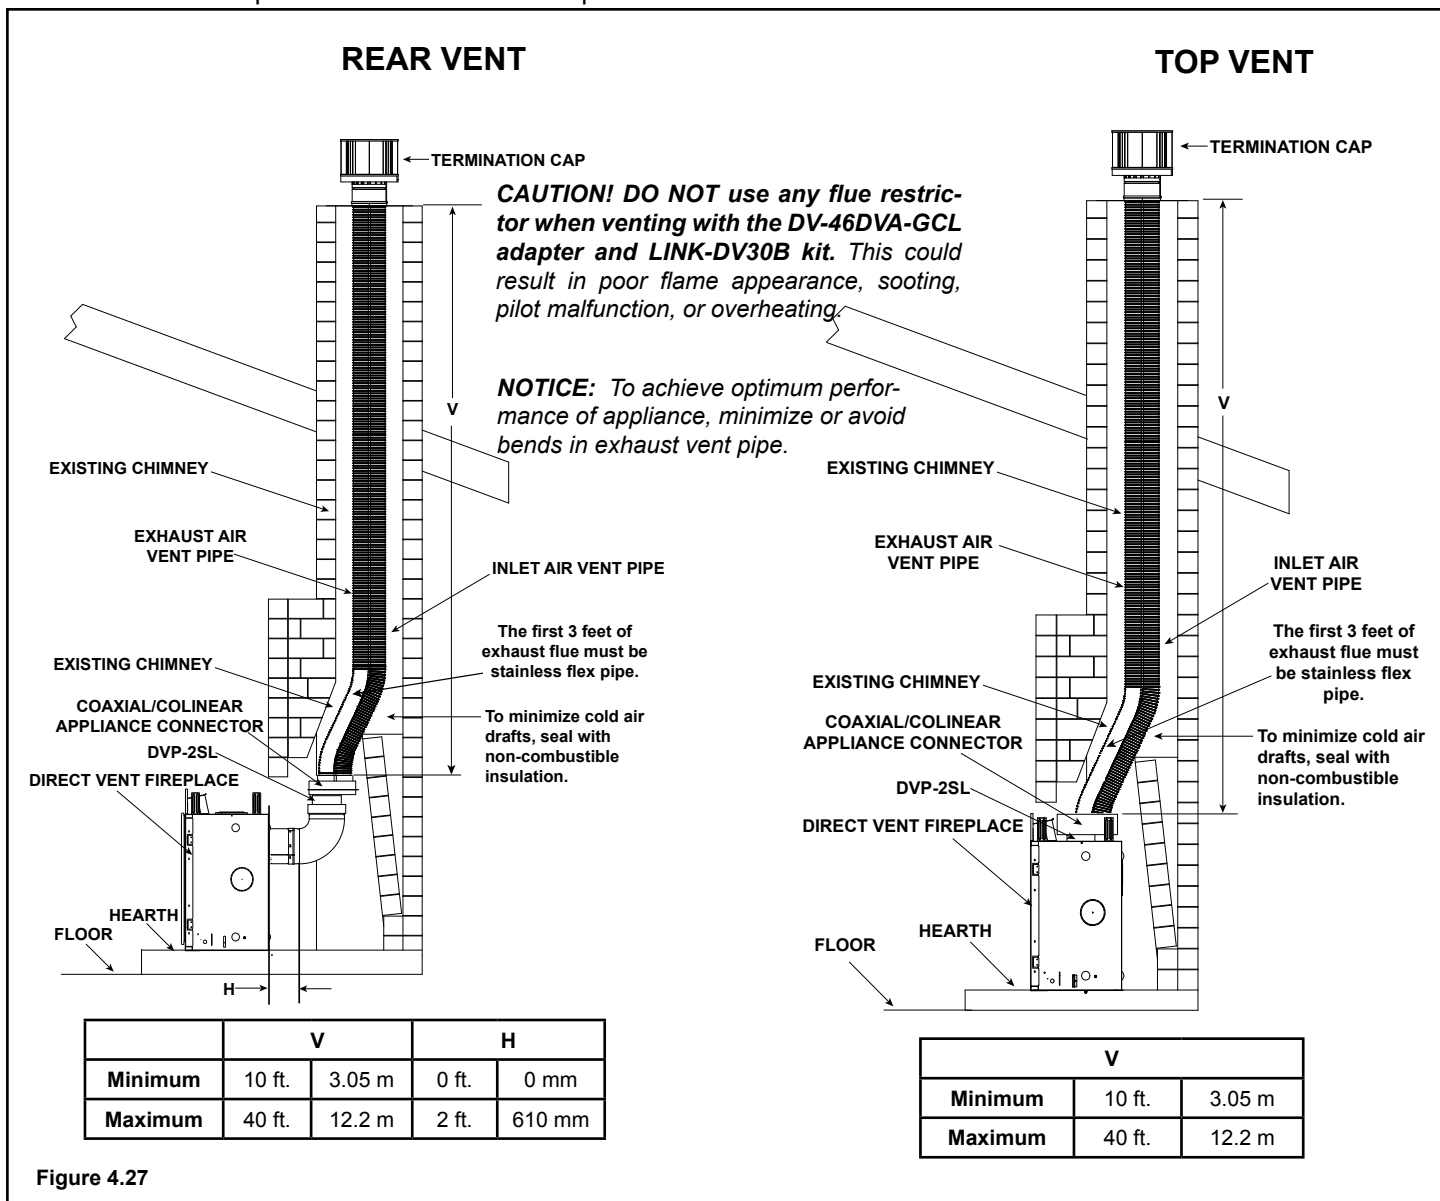

Figure 4.27
- Remove top seal cap and insulation if equipped. See Section 6, "Appliance Preparation." Attach the DVP-2SL to the 8 inch starting collar. Follow installation instructions included with DVP-2SL kit. Attach the DV-46DVA-GCL adapter to the appliance starting collar with 3-1/2 in. self-tapping screws. See Figure 4.27.
- Remove the rear seal cap and insulation if equipped. Connect the DVP-2SL adapter to the vertically positioned elbow. Follow installation instructions included with DVP-2SL kit. Secure DV-46DVA-GCL adapter to DVP-2SL with 3-1/2 in. self-tapping screws. See Figure 4.27.